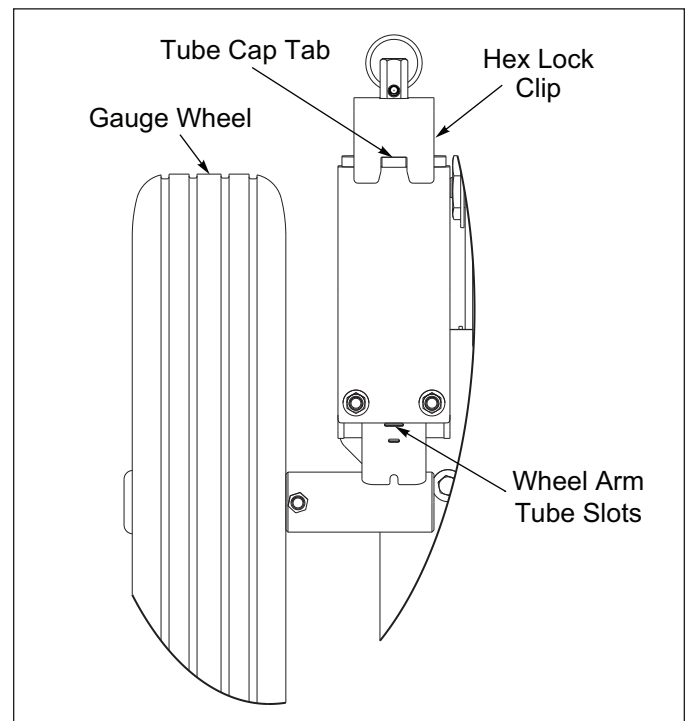

Figure 3-11: Gauge Wheel Detail
3. Turn the Calibration Crank to achieve the desired Tillage Rotor Depth. Use Wheel Arm Tube slots as a guide. **See Figure 3-11.**